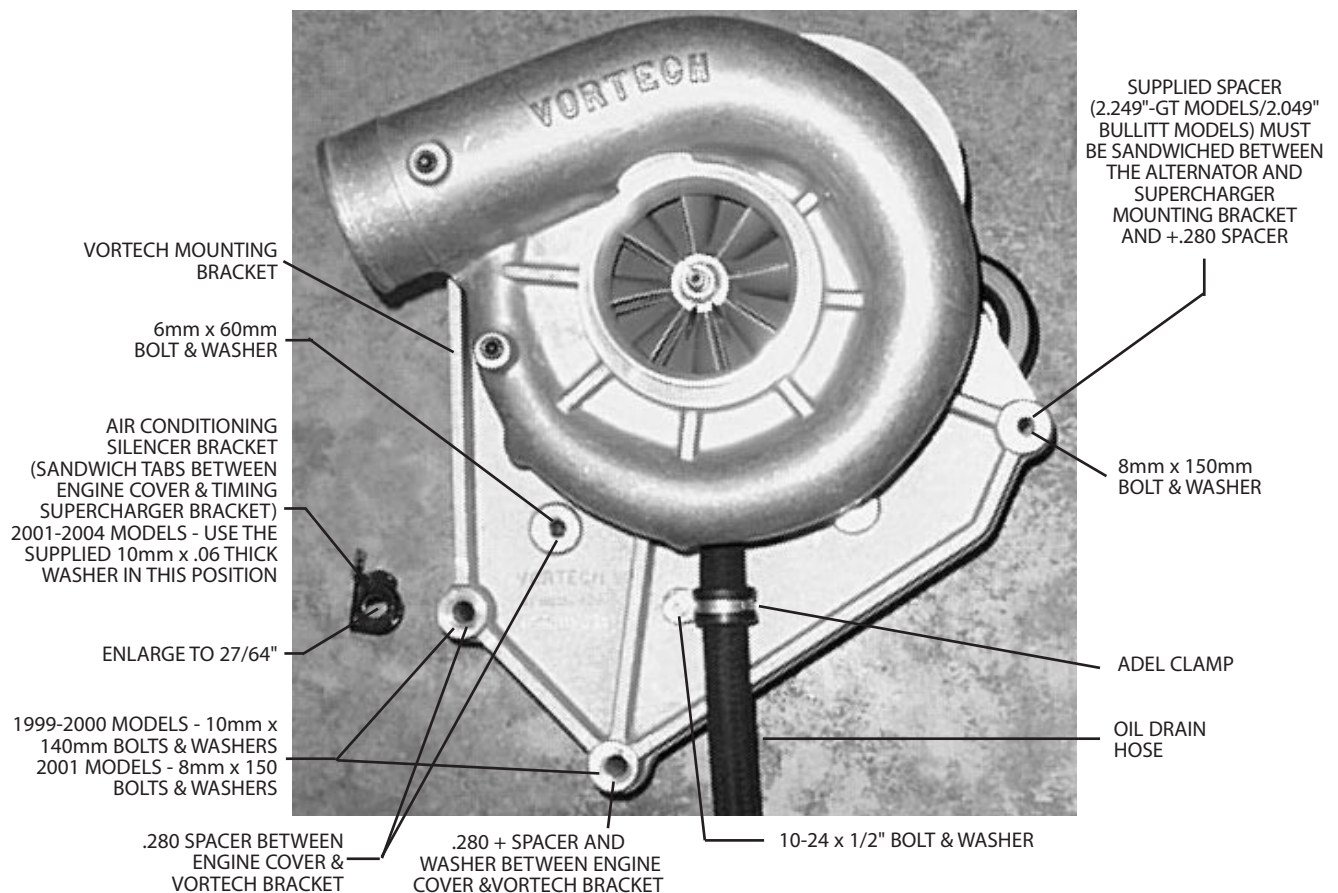

Fig. 3-a / Supercharger-Front View
- B. Refer to Fig. 3-a for hardware and spacer placement and loosely install the supercharger/bracket assembly. Take care to route the drive belt properly. Make sure the bracket and spacers mount flush against their mounting surfaces.
**NOTE:** When mounting the supercharger bracket assembly to the front cover, make sure the wiring harness support bracket is sandwiched in-between the timing cover and the Vortech aluminum bracket in position. (See Fig. 3-a.)